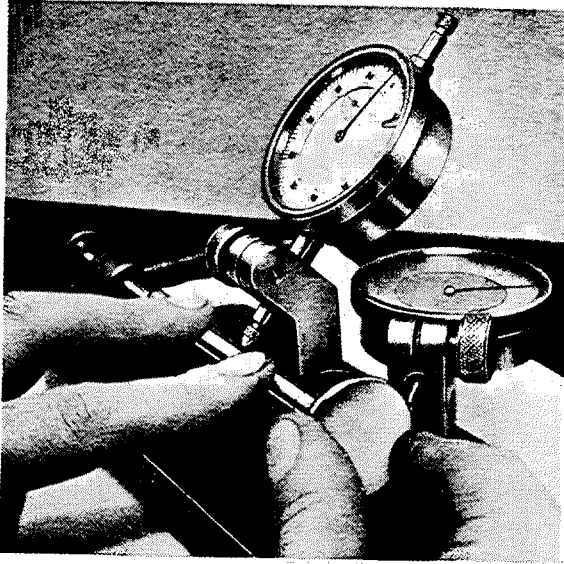

Fig. M 22/3
3. Check valves on a valve tester for wear and out of true of valve head and stem (Fig. M 22/3).